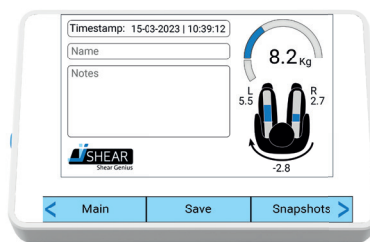

Figure 18: Lean against back support
3. Tap 'Snapshot' in the measurement screen (see Figure 18). The Snapshot screen opens.